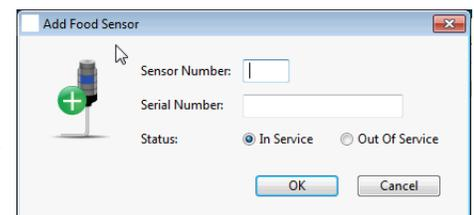

Fig 5:
6. Click on the "Add" button to open the Add Food Sensor Dialog Box (Fig 5).